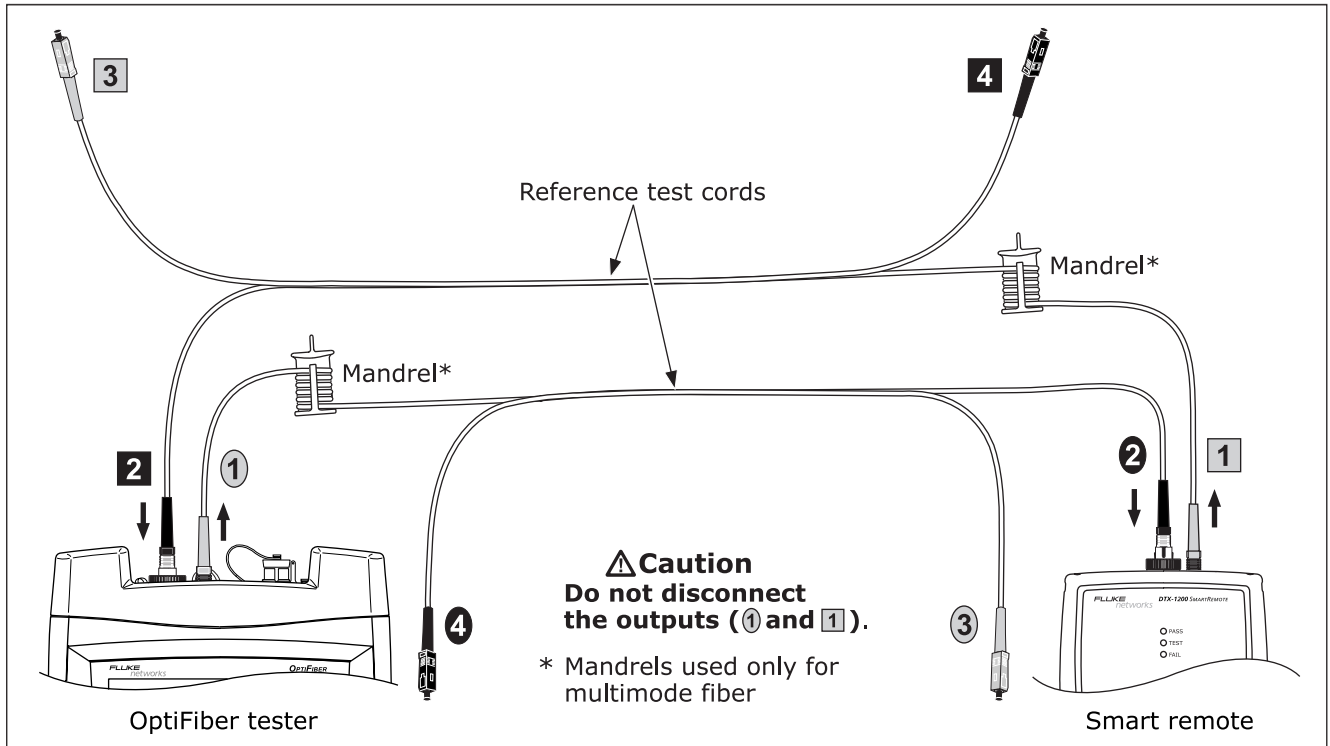

Figure 28. Smart Remote Mode Reference Connections
- At the beginning of each day using the remote end setup (Figures 28 through 35) you will use that day. The tester reminds you to set the reference if the reference is more than 12 hours old.
Figure 26 shows how to wrap the fiber around a mandrel. Place mandrels on the tester's output fibers, as shown in Figures 28 through 35.
- 8 Connect the reference test cords as shown on the screen and in Figure 28; then press **ENTER**.